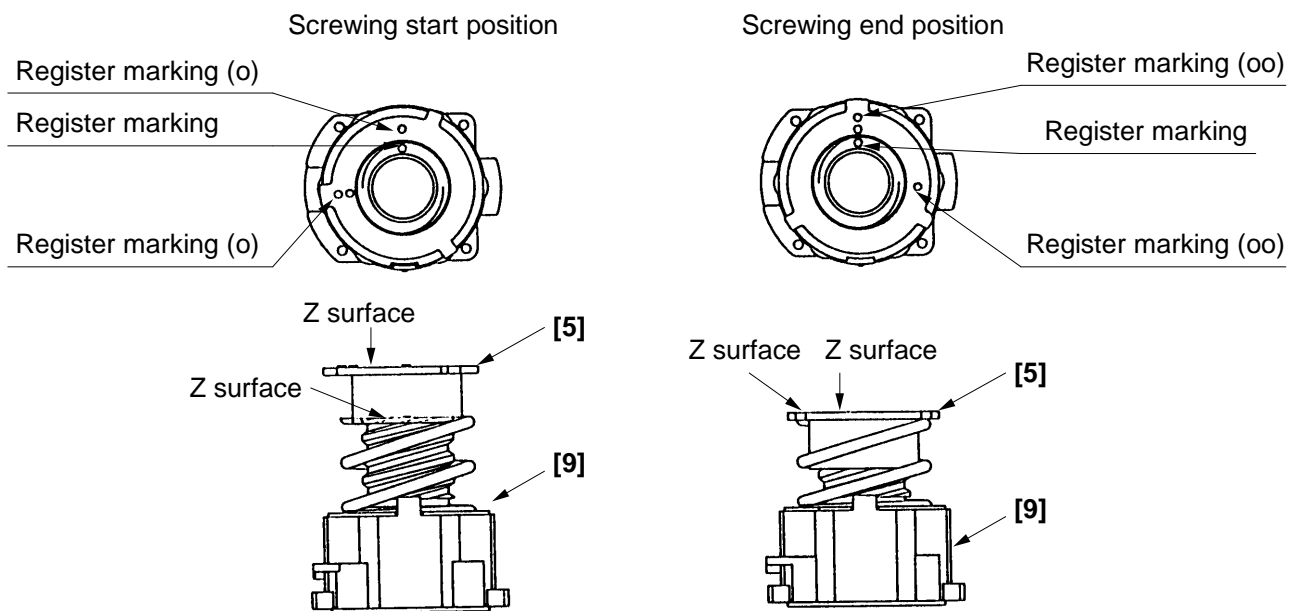

Fig. 10
- (b) Screw the Nut [5] into the Front Case [9]. (See Fig. 10)